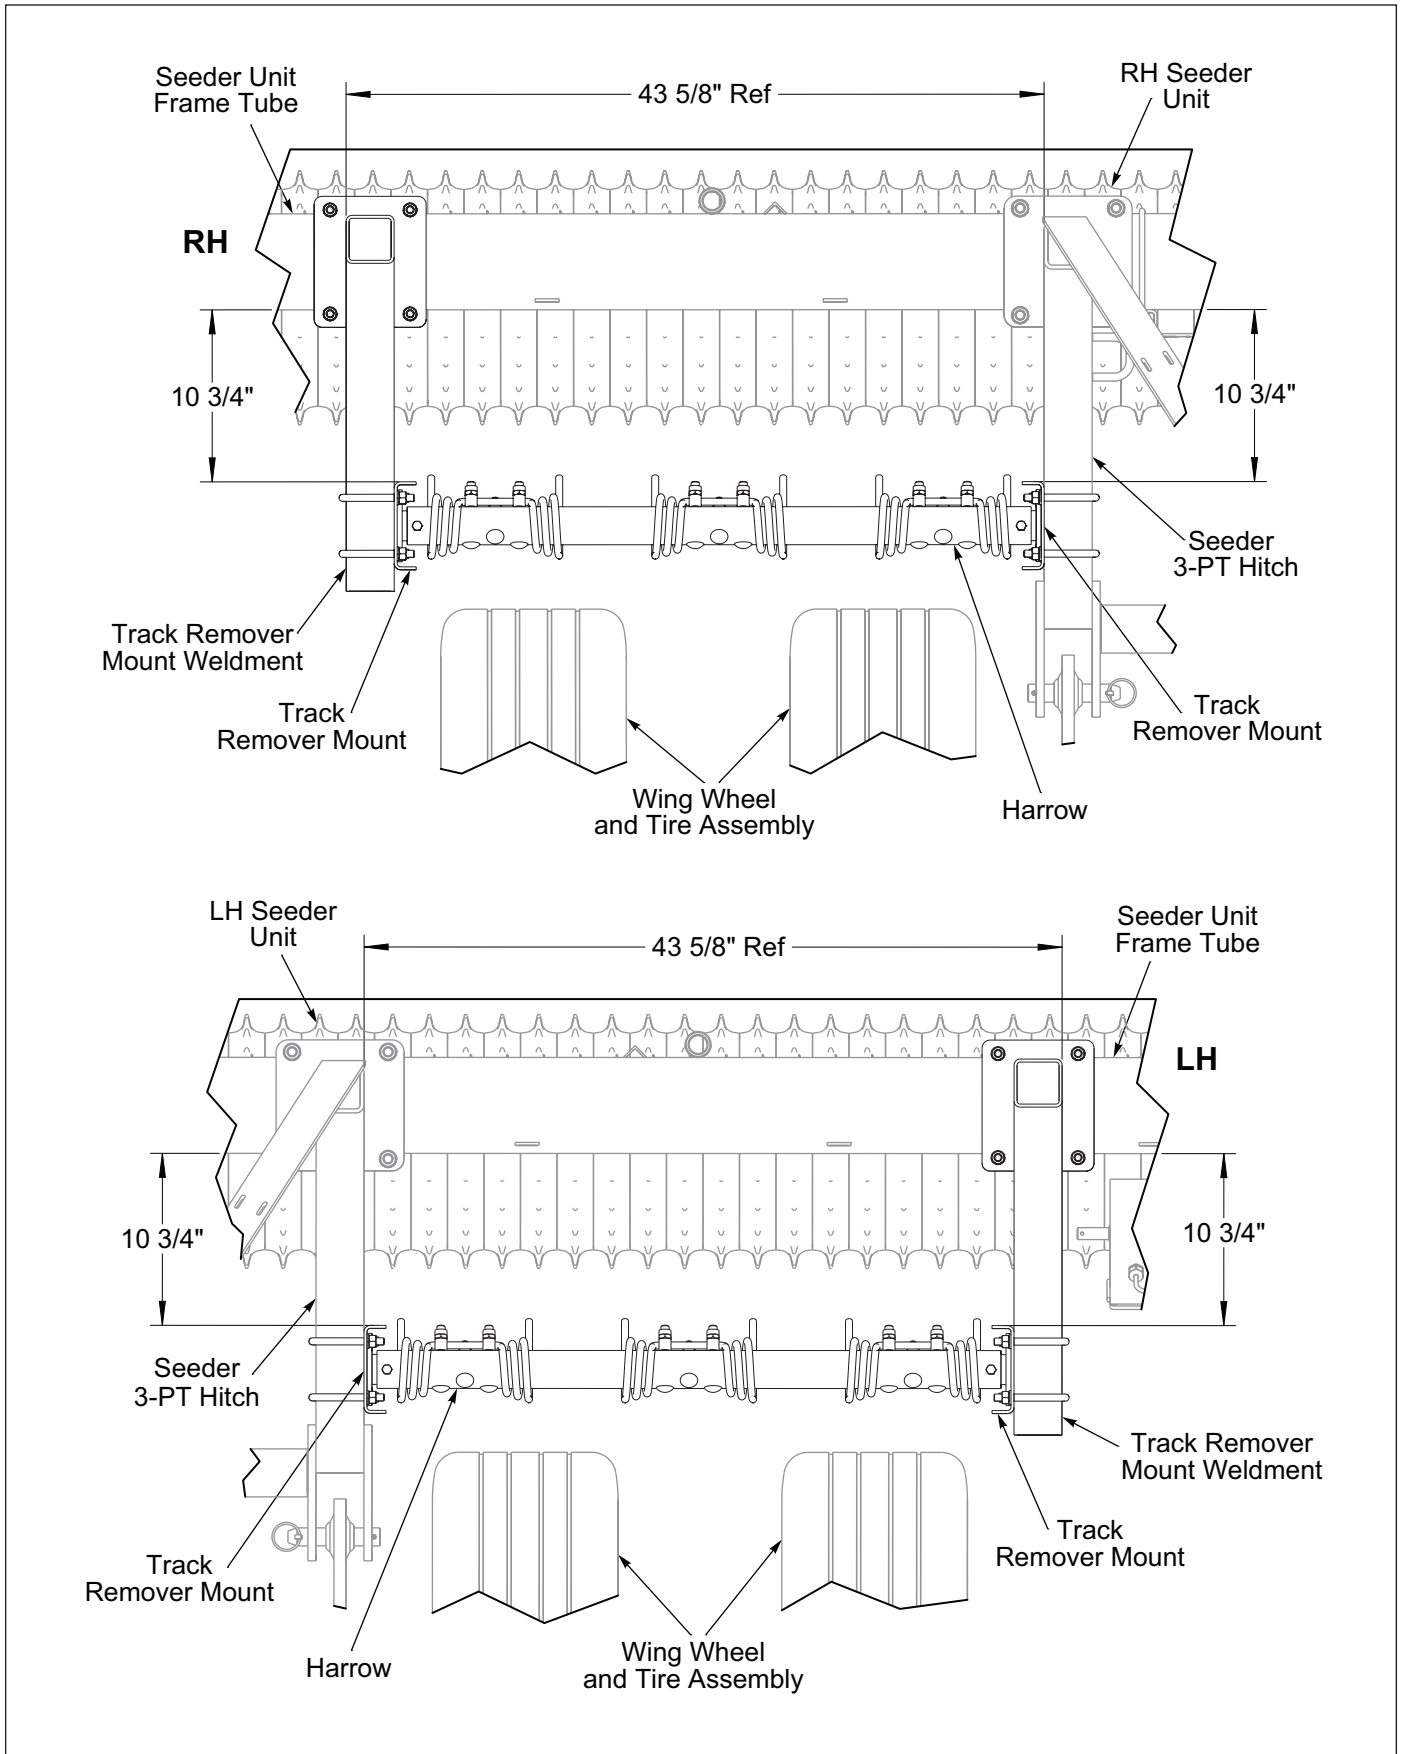

Figure 2-30: Wing Harrow Installation Dimensions
4. Measurement from the Track Remover Mount to the Seeder Unit's Frame Tube should be 10-3/4". If not reposition. **See Figure 2-30.**